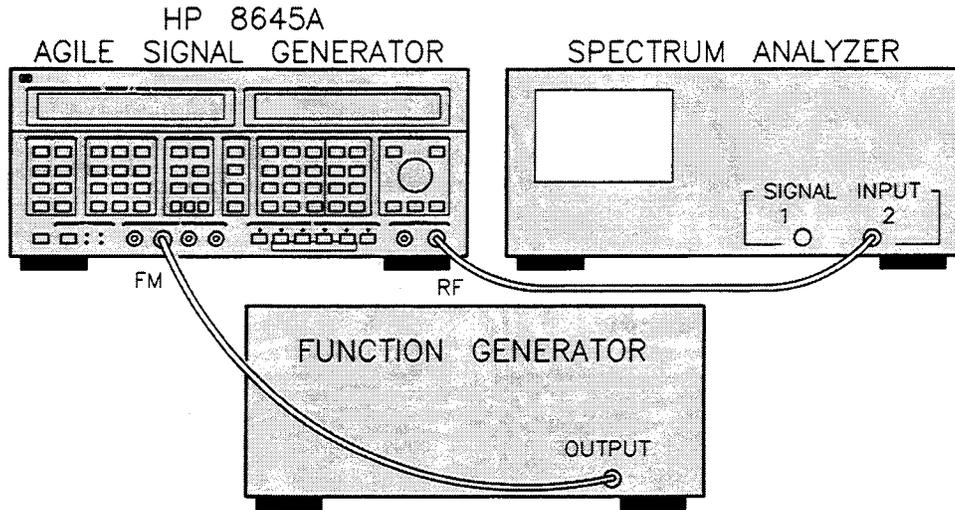

Figure 2-4. Equipment Setup for FM Procedure #2.
1. **Connect the HP 8645A to the Spectrum Analyzer and Function Generator as shown in figure 2-4.** Turn on the equipment and make the following adjustments: